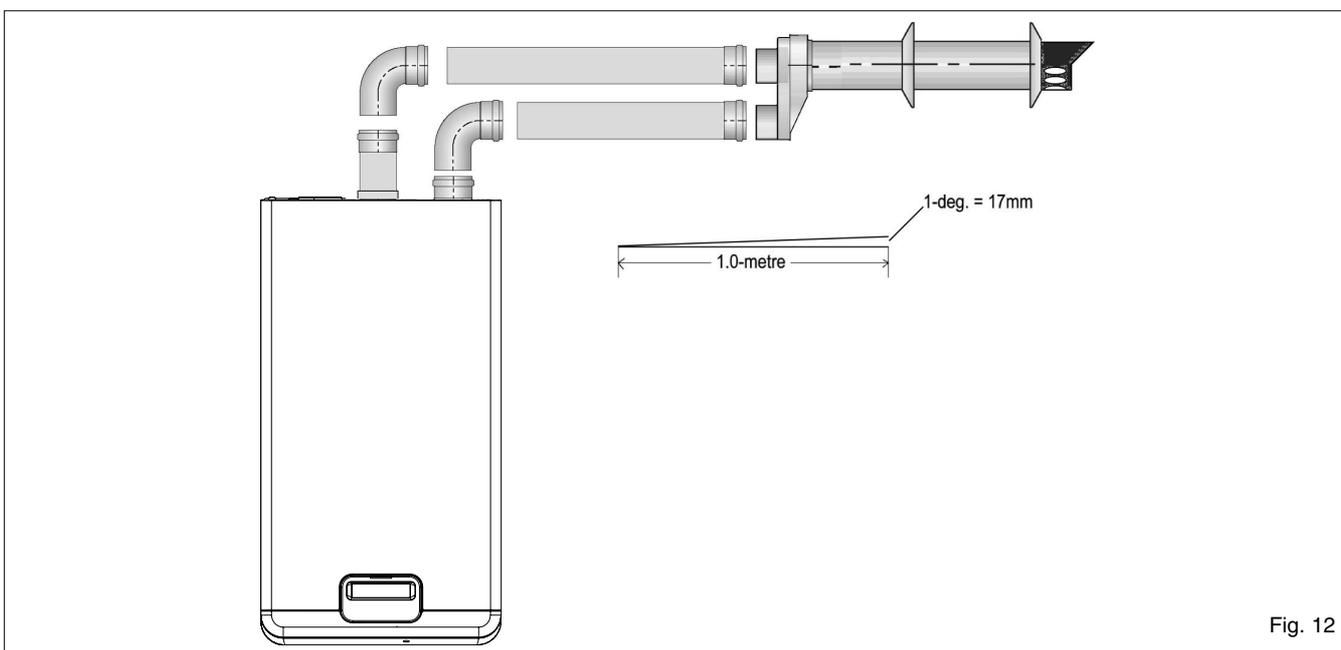

Fig. 12
- Insert the exhaust connection manifold (A) onto the appliance flue outlet.
- Remove the blanking plate (located to the right of the appliance flue outlet) and - using the same screws - install the air inlet plate (B).
- Using the hole in the exhaust connection manifold as a guide, drill a 3mm hole in the appliance flue spigot and secure the exhaust manifold connection to the flue spigot using the screw provided (C).
4.5.3.2 HORIZONTAL TERMINATION (see fig. 12)